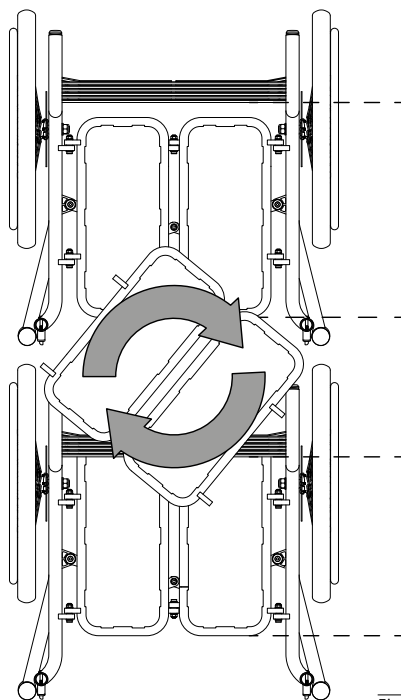

Fig. 37
1. Loosen the four outer screws of the seat plate, turn the seat plate by 180° and then reassemble it. (Fig. 37)